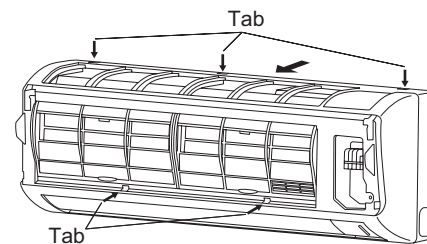

Fig. 2-166
- (3) Press the 3 tabs at the top of the grille and the 3 tabs on the front face to separate the grille from the frame. (Fig. 2-166)
- (4) Pull the grille toward you to remove it.